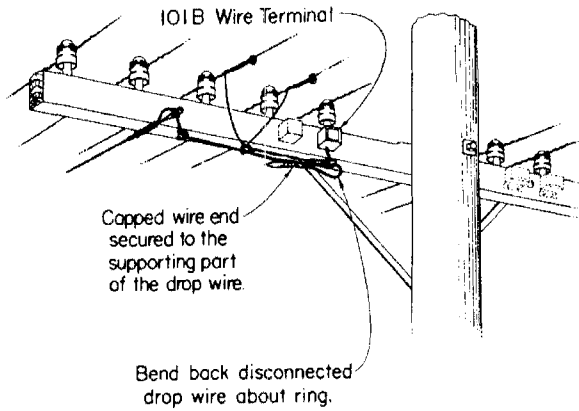

Fig. 10 – Wire Terminal Mounted on Crossarm
4.02 Drops from Open Wire Lines: Pull disconnected drop from the wire terminal mounted on the crossarm or pole. Lay wire back on itself at drive ring located below the wire terminal, tag and cap the free end and secure it to the supporting part of the drop as shown in Fig. 10.